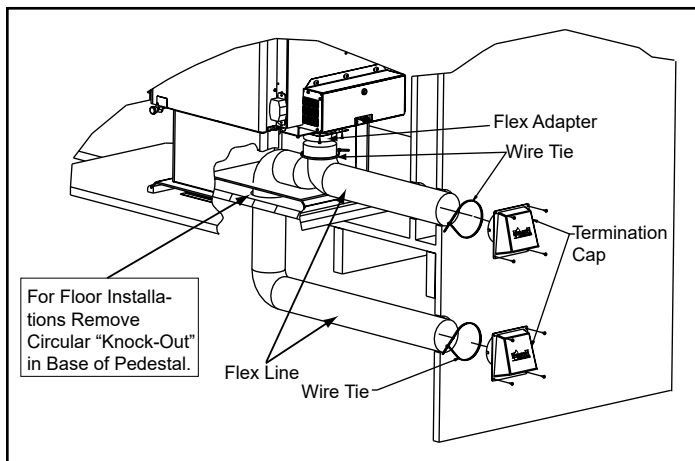
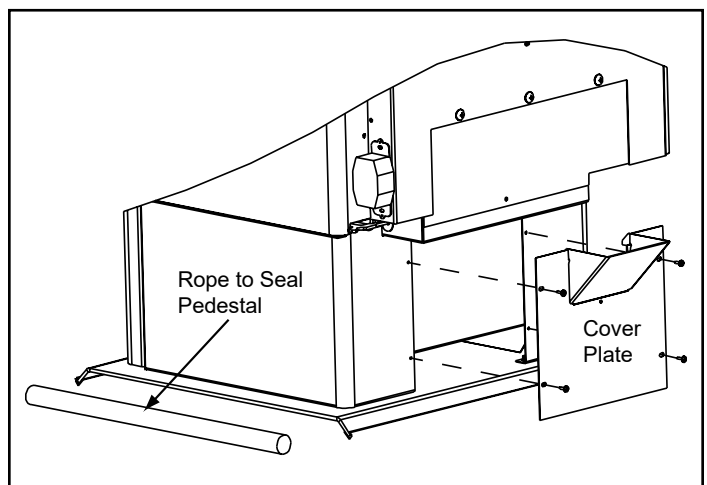

Figure 16.1 - Floor & Rear Installation
Figure 16.2 - Floor Installation Alternative
2. Using a #2 Phillips screw driver attach the flex adapter to the appliance using 4 screws (**Figure 16.1**).
5. **Floor Installation Alternative:** In some instances you may not be able to install the flex pipe as show in **Figure 16.1**. If that is the case, you will need to order SRV7033-041 which includes a cover plate and sealing rope as shown in **Figure 16.2**. The goal is to seal the pedestal so no room air can leak into the pedestal or for cold air infiltration.